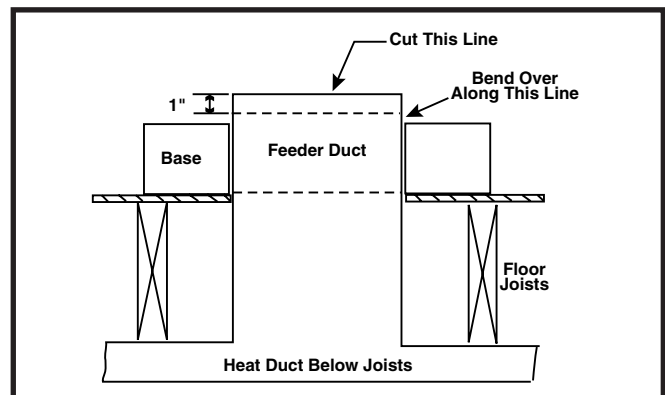

Figure 6. Feeder Duct Installation
8. Slit the corners of the feeder duct down to the top of the base pan (Figure 6). While the top of the distribution duct is pulled up with one hand, bend down each side of the feeder duct tightly to the base with the other hand. Trim the metal to allow a one inch flange over the top of the base pan and seal that flange with metal tape.